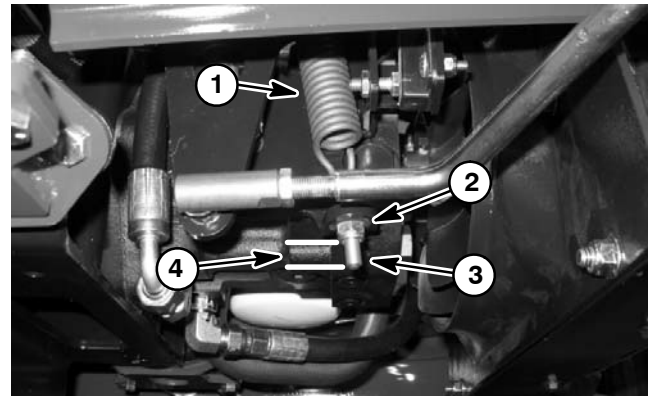

Figure 44
2. Attach extension spring to anchor point of arm. Tighten lock nut on adjustment pin to allow from .475" to .725" (12.1 to 18.4 mm) thread length to extend beyond the lock nut (Fig. 44).